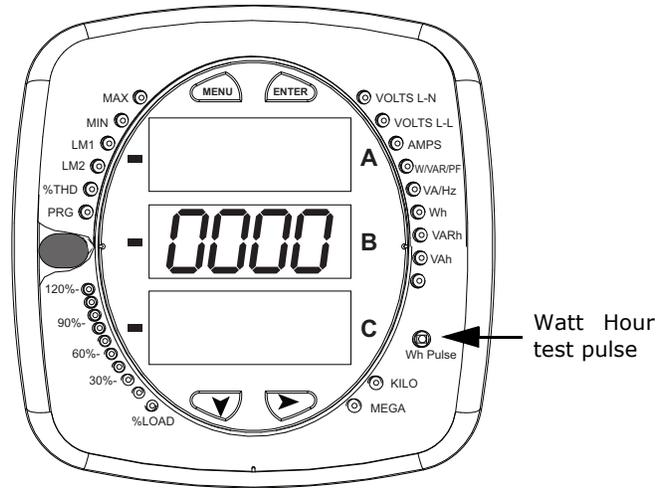

Figure 12.1: Watt Hour Test Pulse
- Figure 12.1 shows the location of the pulse.